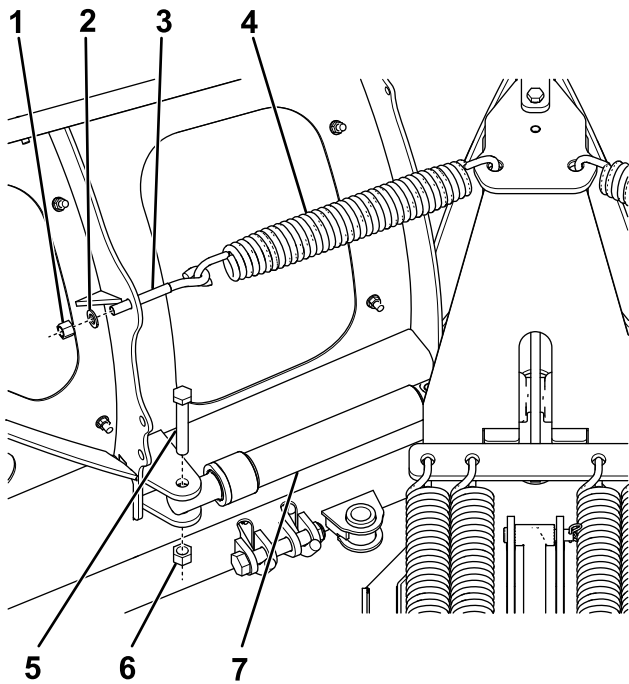

Figure 10
8. Hook the 2 return springs through the holes on the top of the blade center (Figure 10).
using 2 washers (1/2 inch) and 2 self-locking nuts (Figure 10).
13. Secure the 2 angle cylinders to the blade wings using a bolt (5/8 inch) and top locknut (Figure 10).
9. Hook the other ends of the return springs to 2 eyebolts (Figure 10).